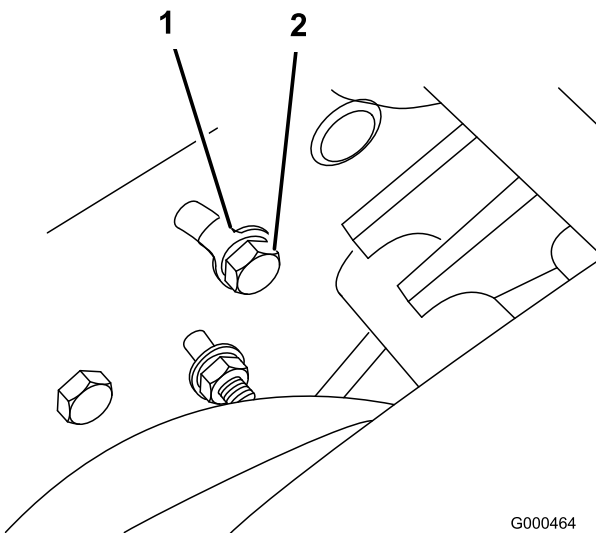

Figure 42
- A. On back side of side plate, loosen the bolt securing the idler bracket to the side plate (Figure 42).